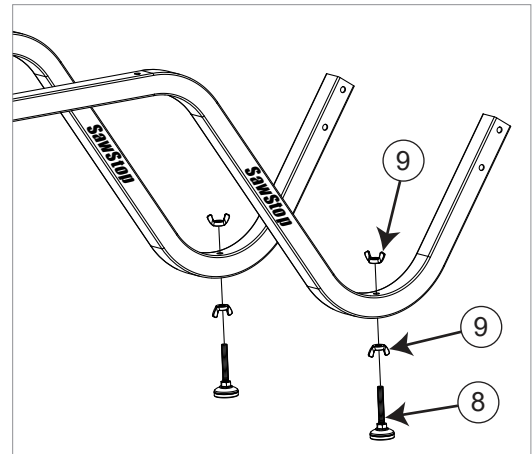

Fig. 7
- Attach a leveling foot to each side frame with two $\frac{3}{8}$ inch wing nuts, as shown in Fig. 7. First thread a wing nut over each foot with the wings extending toward the bottom of the foot, as shown. Then insert one foot into the hole in each side frame, and thread a second wing nut onto each foot. Do not fully tighten the wing nuts at this time.